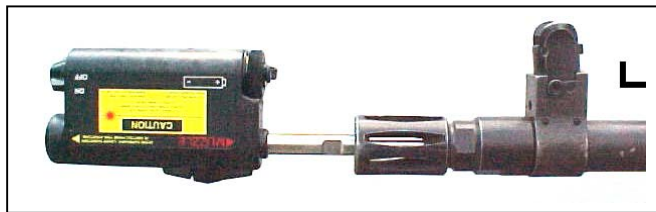

Figure G-2. Bore light in the START-POINT position.
(3) *Start Point.* Rotate the bore light until the battery compartment is facing upward and the adjusters are on the bottom. This position of the bore light and where the visible laser is pointing is identified as the start point (Figure G-2).